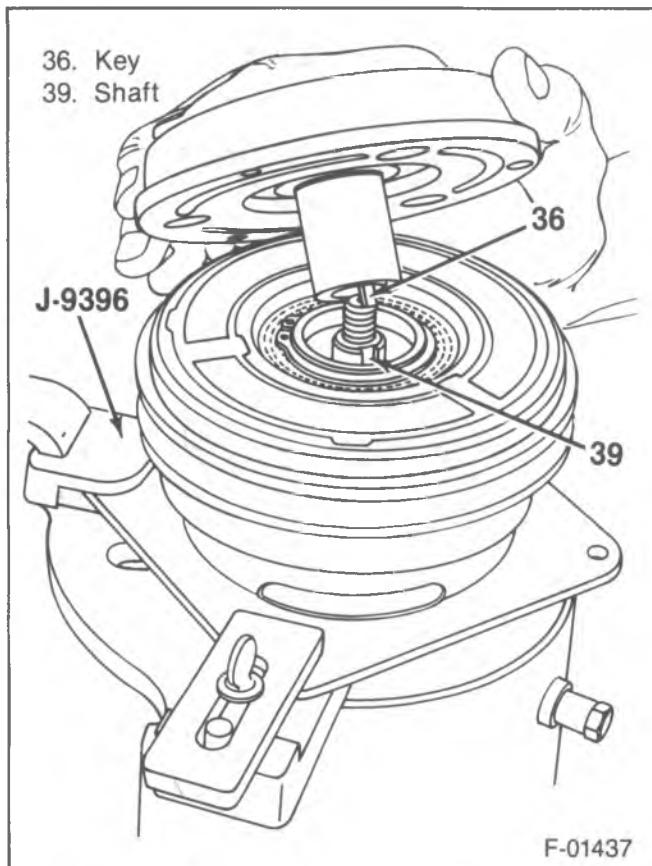
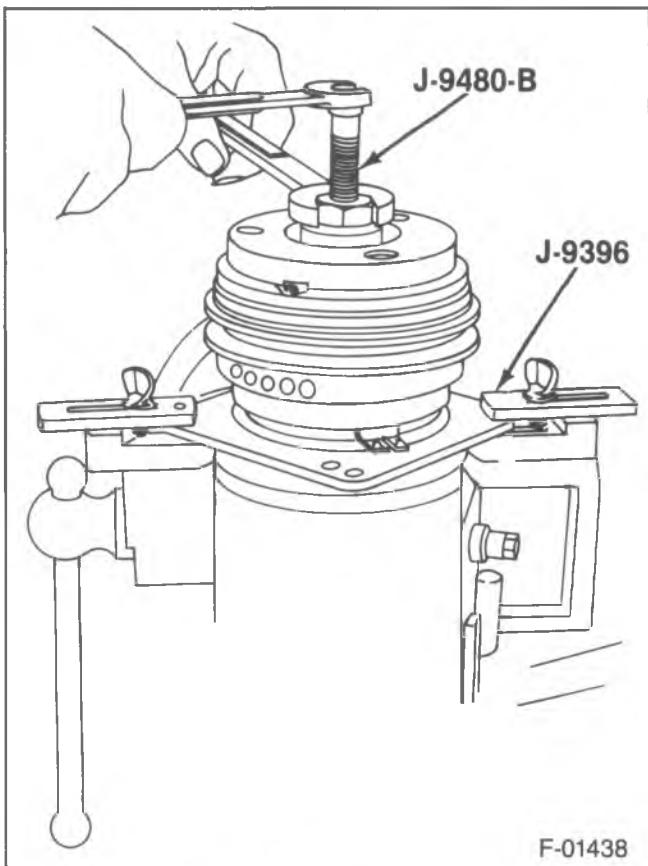

Figure 4—Aligning the Drive Plate Key
Figure 5—Installing the Drive Plate
- Allow the shaft key (36) to extend 4.5 mm ($\frac{3}{16}$ -inch) out of the bottom of the hub keyway (figure 4).
- The shaft key (36) is curved to give an interference fit in the groove.
- Do not drive or pound on the clutch hub or the shaft (39). Internal damage to the compressor may result.
2. Clutch plate and hub assembly (2) (figure 4).
- Install the clutch plate and hub assembly (2) over the compressor shaft lining up the key slot on the hub with the keyway slot in the shaft.
- Install J-9480-B on the threaded end of the shaft (figure 5).
- Back off J-9480-B body to allow the center screw to be threaded against the end of the compressor shaft (39).
- Hold the center screw with a wrench and tighten the hex portion of J-9480-B body while pressing the hub onto the shaft (39). After tightening the body several turns, remove J-9480-B and check that the shaft key (36) is properly in place in the keyway.
- Air gap between contact surfaces of the clutch plate and hub assembly (2) and the pulley (6) should be 0.56–1.34 mm (0.022–0.057-inch).